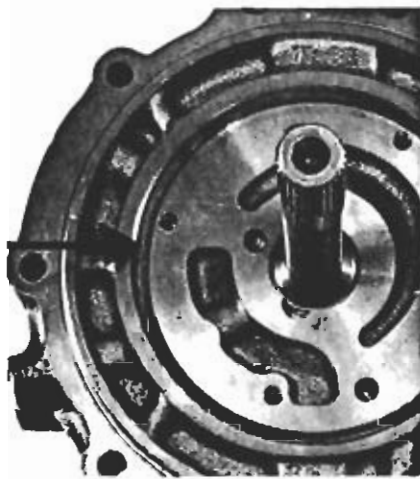

Figure 31 Pump gasket in position
**STEP 46** Place a gasket on adapter face and align pump bolt holes to holes in adapter as pump is assembled over the input shaft and against adapter face, figure 31.